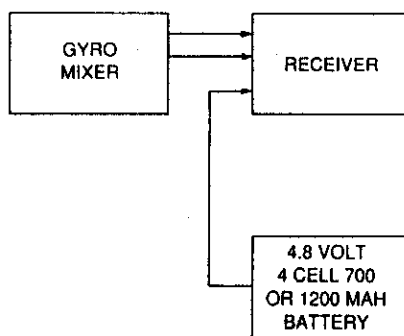
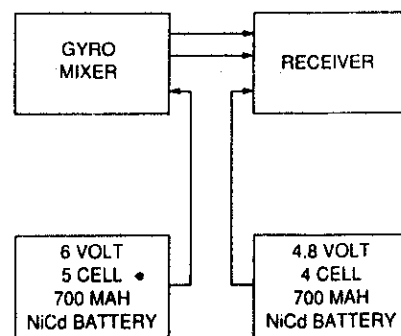
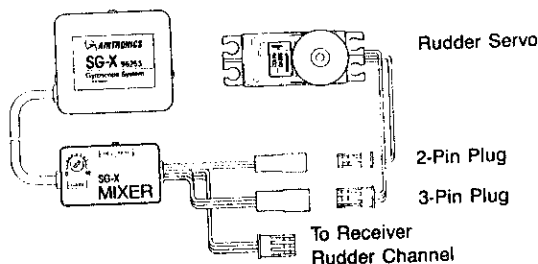
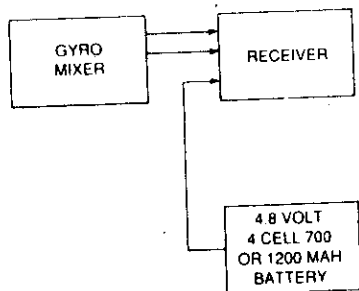

FIGURE 12
FIGURE 13
FIGURE 14
FIGURE 15
1. Connect the gyro system to the VANGUARD FM 6H receiver as indicated in Figure 12. A single 1200 MAH or 700 MAH battery can be used to power both the receiver and the gyro as shown in Figure 13. However, if a separate power source is desired for powering the gyro, the connections should be made as shown in Figure 14.
4. Set your VANGUARD FM 6H Gyro "I" - "II" control switch (16) to the "I" position. Note that movement of the Gyro will not cause any servo response. To activate the gyro, position the Gyro Control switch to the number II position.
1. Connect the gyro system to the helicopters receiver as indicated in Figure 14. A single 1200 MAH or 700 MAH battery can be used to power both receiver and the gyro as shown in figure 15. The Gyroscope motor should operate.